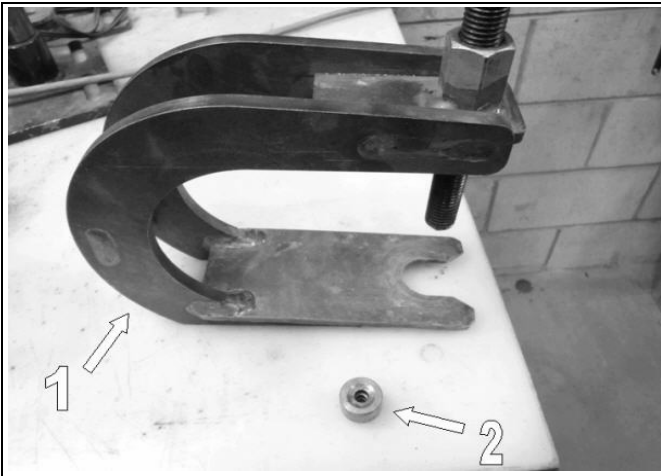

Figure 19
Use Tatou extractor # 2000-00-1050 (article 1, Figure 19), and the following procedure to make the replacement:
- If there is no bolt, use the alignment sleeve (article 2, Figure 19) to locate the extractor.